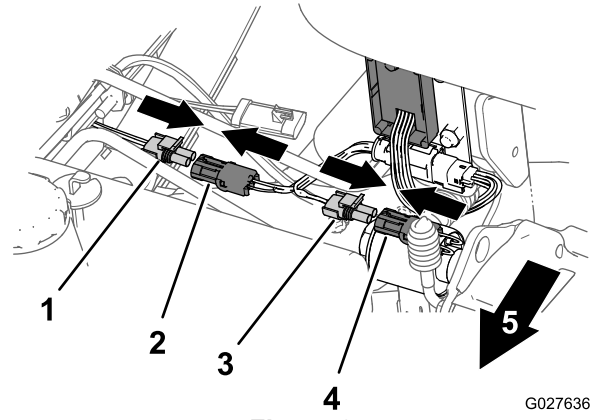

Figure 9
1. Connect the 2-pin connector that you disconnected in step 1 of Installing the Relay Controller and Adapter Harness to the Machine (page 2) to the 2-socket connector of the adapter harness (Figure 9).
2. Connect the 2-pin connector of the adapter harness to the 2-socket connector of the differential solenoid harness (Figure 9).